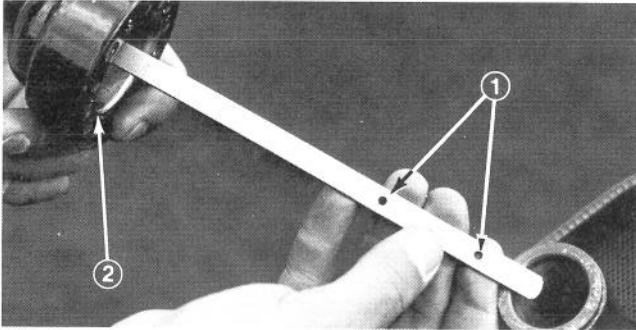

Figure 77
2. Refill the reservoir with a good grade of SAE 10W-30 or 10W-40 engine oil until level is up to the lower mark on dipstick (Fig. 77).